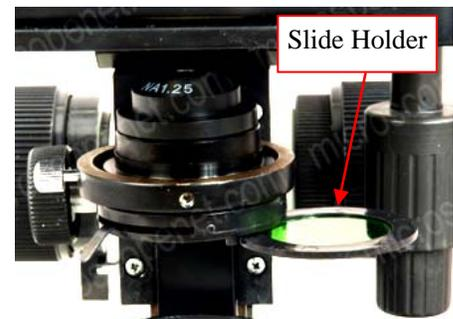

Fig.2
2.4 Installation of the glass filter (Fig.2)